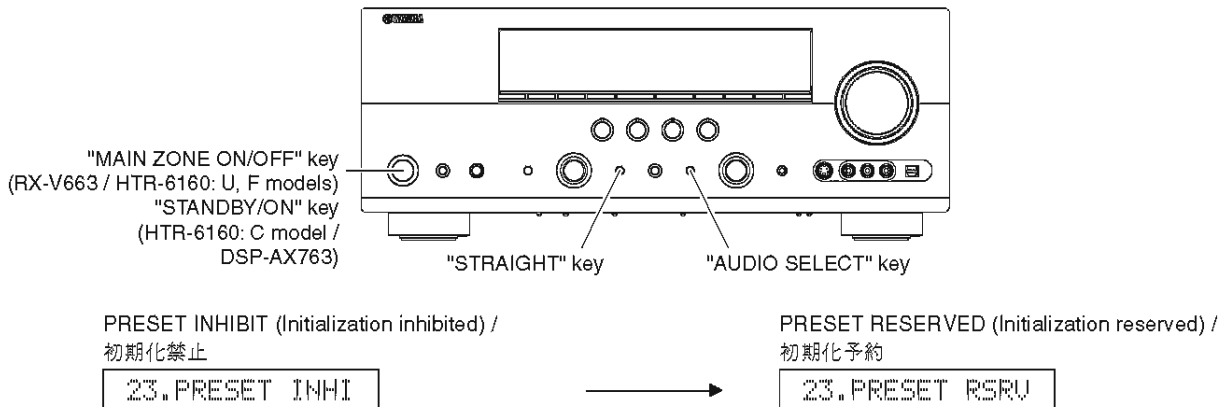

Fig. 4
2. Press the "MAIN ZONE ON/OFF" (RX-V663 / HTR-6160: U, F models) / "STANDBY/ON" (HTR-6160: C model / DSP-AX763) key while simultaneously pressing the "STRAIGHT" and "AUDIO SELECT" keys. (Fig. 4)
2. "STRAIGHT"キーと"AUDIO SELECT"キーを押しながら、"STANDBY/ON"キーを押し、ダイアグを起動します。(Fig. 4)